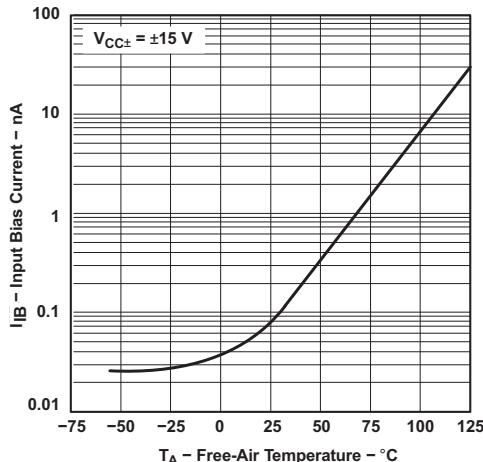

Figure 1. Input Bias Current vs Free-Air Temperature
(1) All characteristics are measured under open-loop conditions with zero common-mode voltage, unless otherwise specified.
(3) Input bias currents of an FET-input operational amplifier are normal junction reverse currents, which are temperature sensitive, as shown in Figure 1. Pulse techniques must be used that maintain the junction temperature as close to the ambient temperature as possible.
- (1) Input bias currents of an FET-input operational amplifier are normal junction reverse currents, which are temperature sensitive, as shown in Figure 1. Pulse techniques that maintain the junction temperature as close to the ambient temperature as possible must be used.
- (2) All characteristics are measured under open-loop conditions with zero common-mode voltage, unless otherwise specified. Full range is $T_A = -55^\circ C$ to $+125^\circ C$.
- (2) All characteristics are measured under open-loop conditions with zero common-mode voltage, unless otherwise specified. Full range is $T_A = -55^\circ\text{C}$ to $+125^\circ\text{C}$.